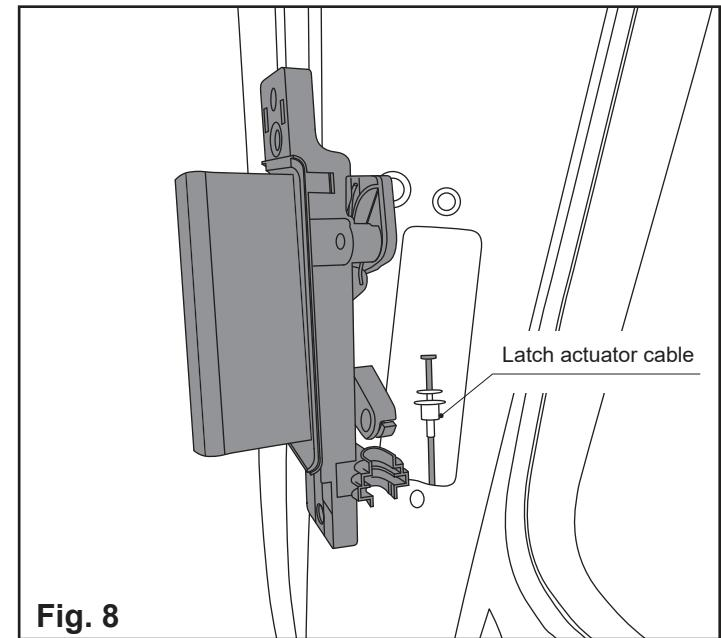

Fig. 8
2. Clamp the bowden cable latch actuator to the inside handle and refit the inside handle (Fig. 8).